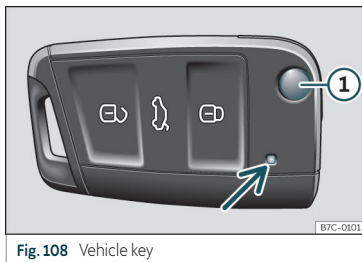

Fig. 108 Vehicle key
When a button on the vehicle key is pressed, the control lamp flashes »» Fig. 108 (arrow) once briefly, but if the button is held down for a longer period the control lamp flashes several times, such as in convenience opening.
Press button ① »» Fig. 108 to unlock and unfold the key shaft.
- If the buttons of the vehicle key are pressed >>> Fig. 108 or one of the central locking buttons >>> page 115 is pressed repeatedly in short succession, the central locking briefly disconnects as protection against overloading. The vehicle is then unlocked. Lock it if necessary.